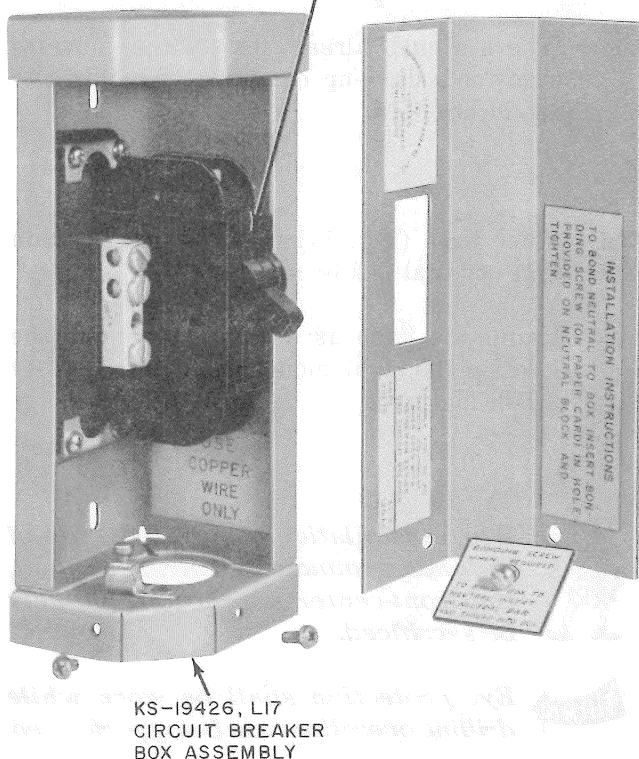

Fig. 12—Circuit Breaker Box with Circuit Breaker Installed
2.22 A KS-19426, List 17 circuit breaker enclosure (Fig. 12), for mounting a Heineman Electric Co. No. 0912, 15 amp Cat #91-106-1 single pole circuit breaker (obtained locally) mounts in the